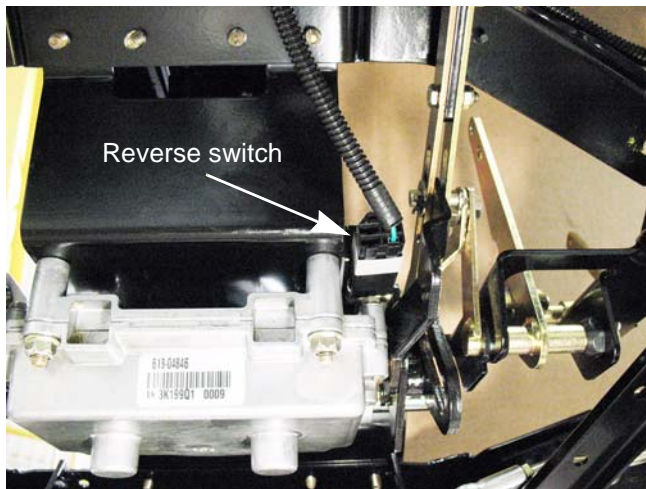

Figure 6.27
16. Connect the reverse switch. See Figure 6.27.